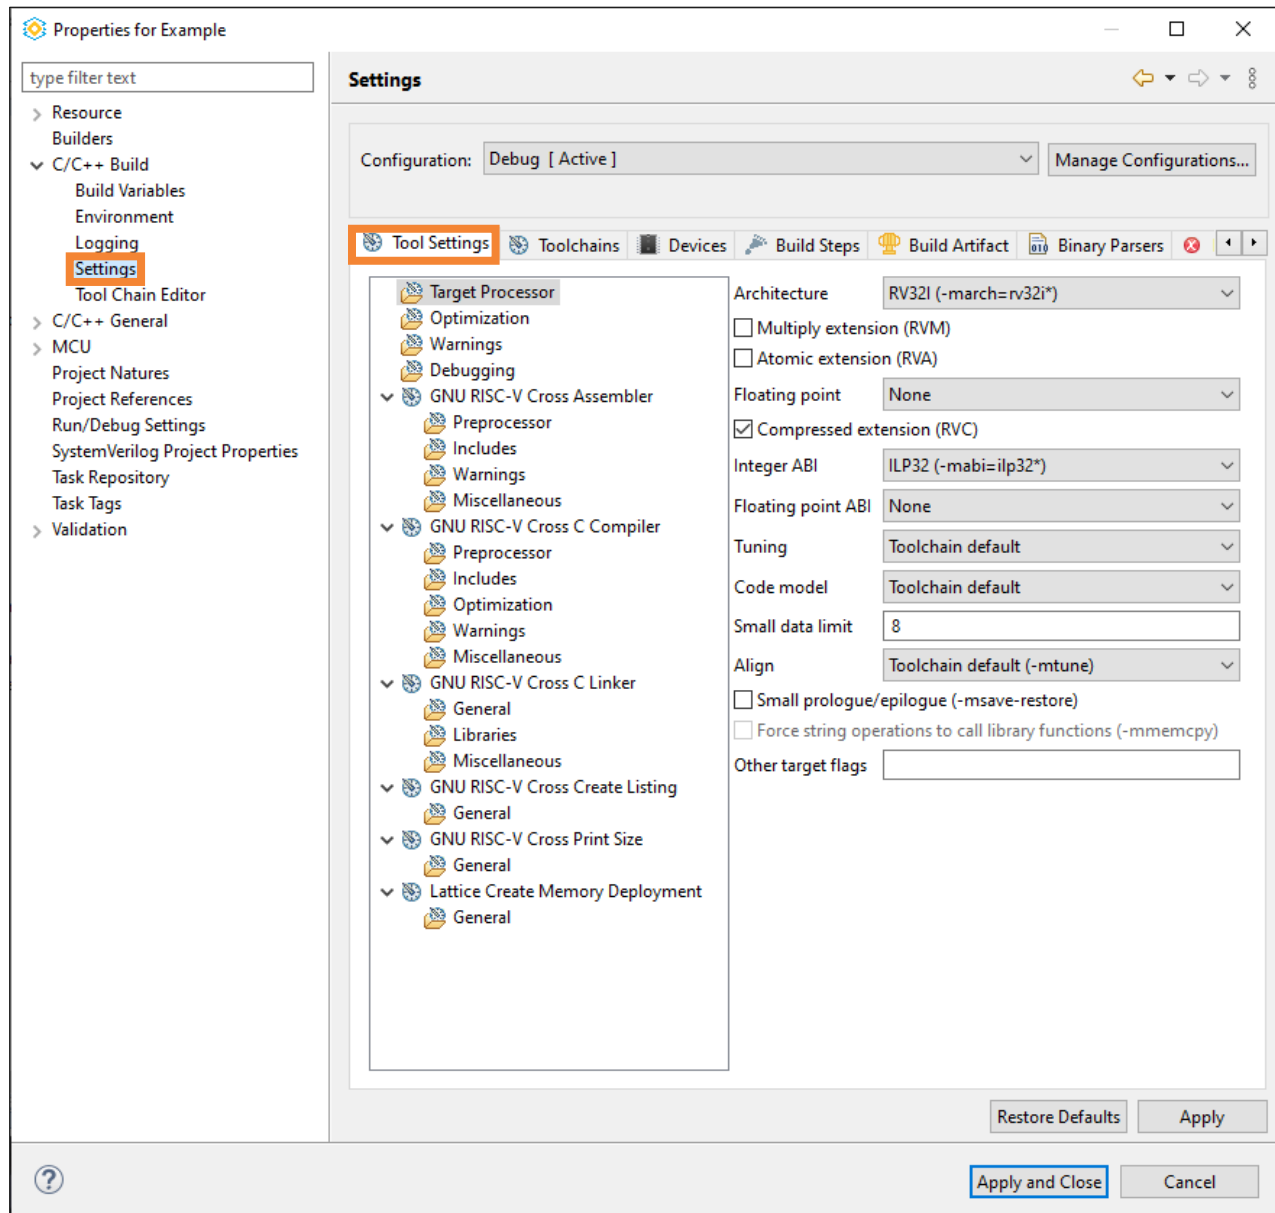

Figure 3.34. Properties of C/C++ Project
2. Choose **Project > Properties**. The Properties for the current project opens (Figure 3.34).